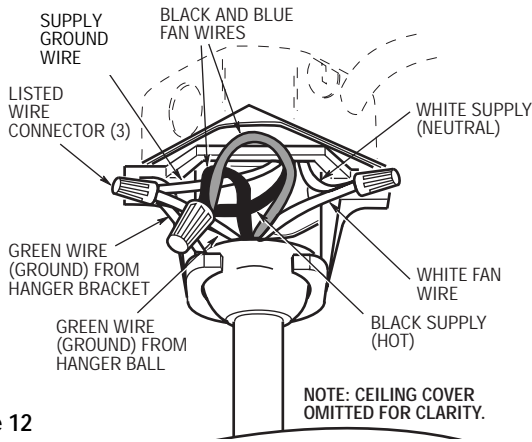

Figure 12
1. Connect the green grounding lead from the hanger ball and the green grounding lead from the hanger bracket to the grounding conductor of supply (this may be a bare wire or wire with green colored insulation). Securely connect wires with wire connector supplied (Figure 12).
2. Securely connect the fan motor white wire to the supply white (neutral) wire using wire connector supplied (Figure 12). Securely connect the fan motor black wire and blue wire to the supply black (hot) wire using wire connector supplied (Figure 12). After connections have been made, turn leads upward and carefully push leads into the outlet box, with the white and green leads on one side of the outlet box and the black and blue leads on the other side of the outlet box.